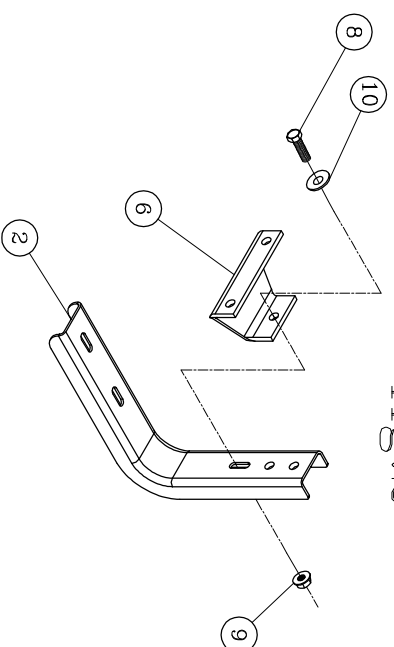

fig.2
2. PREASSEMBLE THREE REAR BRACKETS (ITEM 3) WITH SPACER BRACKETS (ITEM 6), USING THE 5/16-18 ZINC PLATED BOLTS WITH THE 5/16" WASHERS AND THE FLANGE NUTS (ITEMS 8, 9 & 10). HAND TIGHTEN ONLY AT THIS TIME. **SEE FIG. 2.**